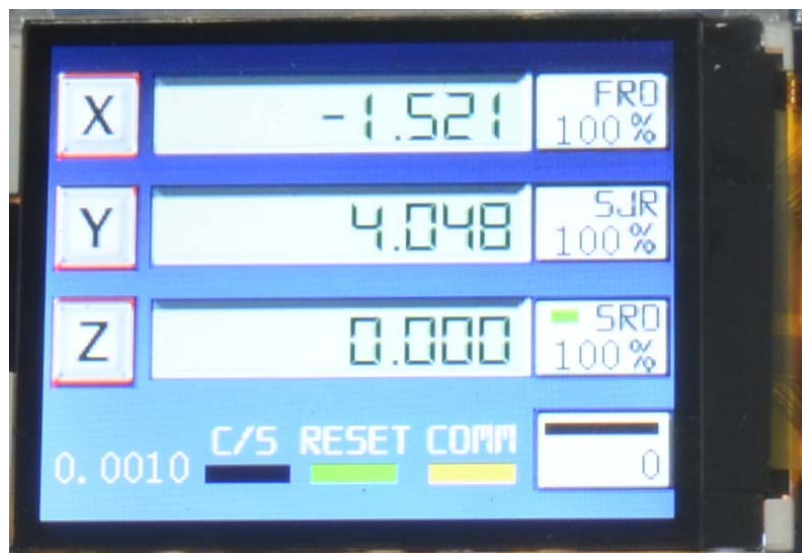

figure 5
- push the key "SJR/SRO/FRO" to put the green block beside SRO in the screen.see as figure 5